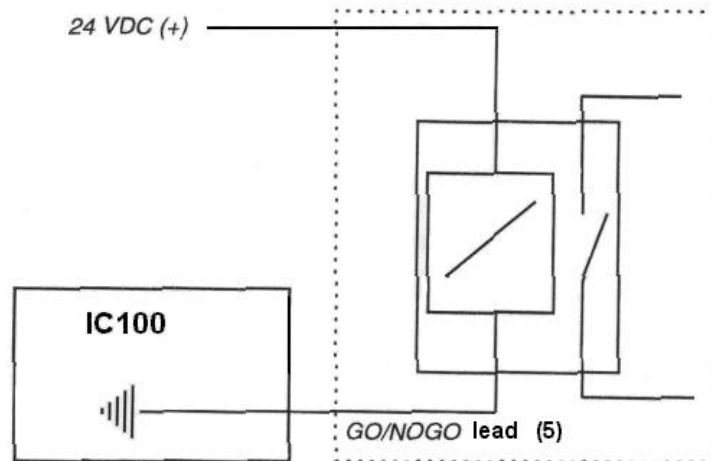

Figure 2-12. GO/NOGO Output
**Pin 5** is the Permissive Start or Go/No Go output. It is a solid-state output, capable of sinking 150 mA, that should be used to enable/disable fuel flow to the engine directly or in combination with other devices (lube oil pressure, etc.). Anytime the ignition stops due to normal stop sequence, over speed, or when a fault is detected, the Permissive Start output will de-energize. Upon start-up, the Permissive Start output will not energize until all timing signals are verified and the ignition is starting to fire. Figure 2-12 shows a likely set up for this output.